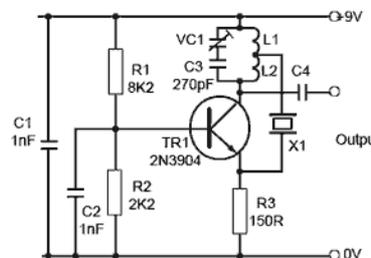

Fig. 2.6.5
10. Refer to Fig. 2.6.5. In which of the following modes is the quartz crystal X1 operating?